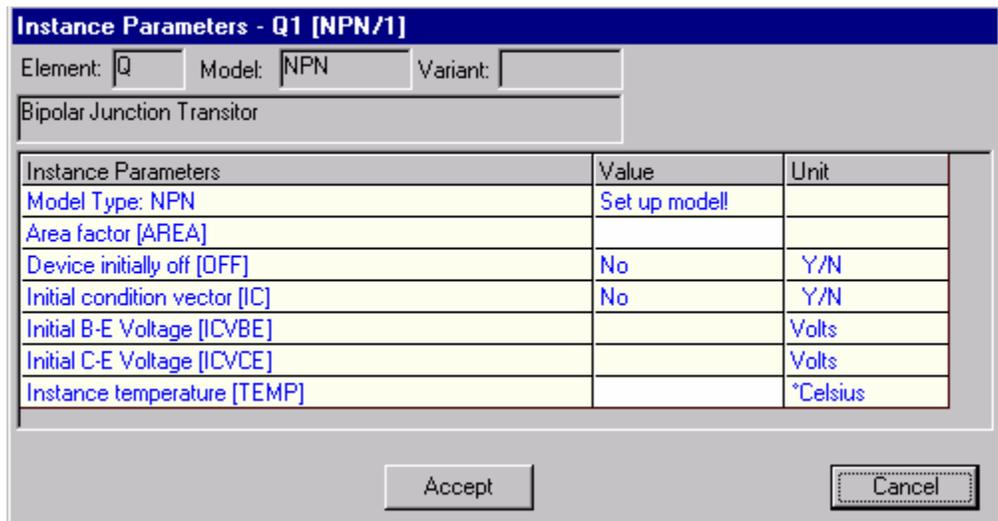

Fig. 5.6
**EDSpice Simulator** provides options to load models from the system library and also to change the parameters of circuit elements. Enable **Assign Simulation Parameters**  option from the **Component Properties**  function tool and click on the element and a window pops up where the required changes can be made (Fig. 5-6).